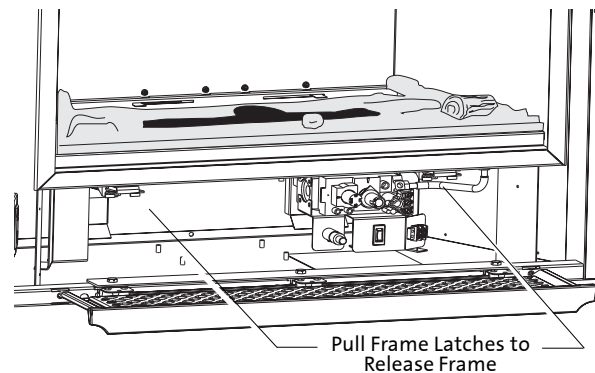

Figure 18. Glass Frame latch locations.
- 1. Remove the Glass Frame, if you have not already done so.** Remove the Ashlip and locate the two frame latches under the firebox floor. See Fig. 18. Pull the latch handles forward to disengage them from the bottom of the glass frame. You can then pull the frame out and up off of the three retainer tabs at the top of the firebox opening. Set the Glass Frame out of the way.